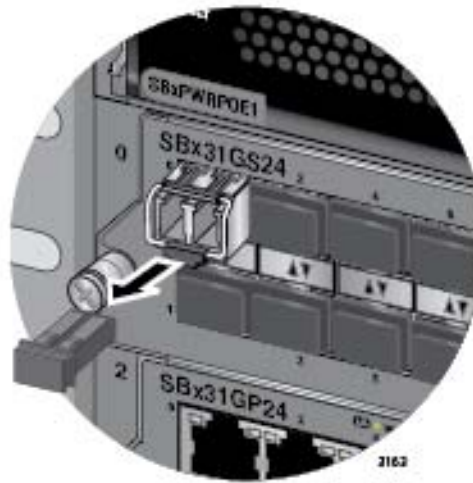

Figure 103. Removing the Dust Cover from the SFP Transceiver in the AT-SBx31GS24 Line Card
5. Remove the protective cover from the SFP transceiver, as shown in Figure 103.